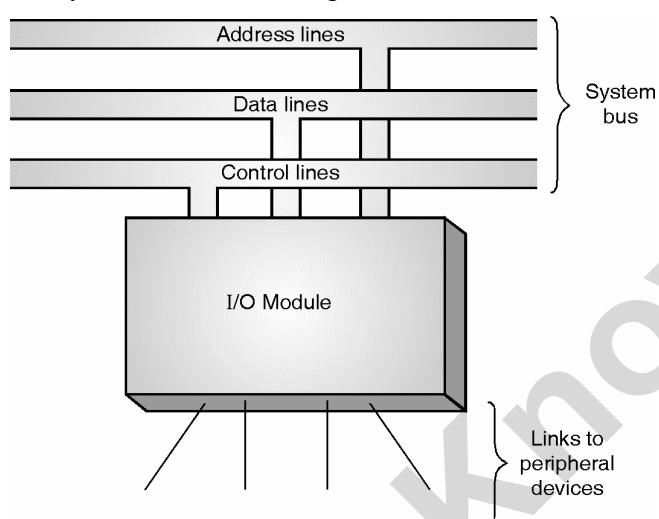

Fig. 11.11.1 : General model of I/O module interface
- The general model of I/O module interfacing with system bus is shown in Fig. 11.11.1.